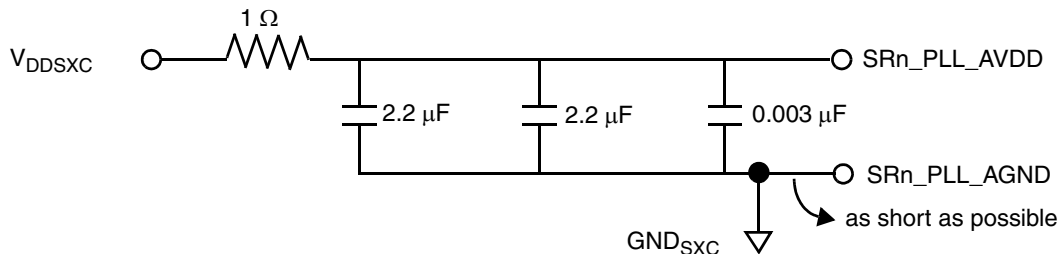

Figure 38. SerDes PLL Supplies
- Couple inputs SR1_PLL_AVDD and SR2_PLL_AVDD with SXCVD1 and SXCVD2 power rails, respectively, using an RC filter (see Figure 38).
Each SerDes PLL power supply must be filtered using a circuit similar to the one shown in Figure 38, to ensure stability of the internal clock. For maximum effectiveness, the filter circuit should be placed as closely as possible to the SRn_PLL_AVDD ball to ensure it filters out as much noise as possible. The ground connection should be near the SRn_PLL_AVDD ball. The 0.003 μF capacitor is closest to the ball, followed by the two 2.2 μF capacitors, and finally the 1 Ω resistor to the board supply plane. The capacitors are connected from SRn_PLL_AVDD to the ground plane. Use ceramic chip capacitors with the highest possible self-resonant frequency. All trances should be kept short, wide, and direct.